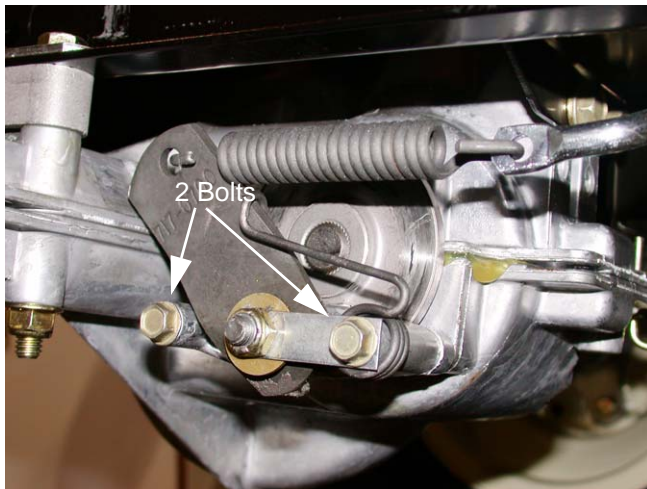

Figure 19.16
19.16. If the brakes are dragging or worn, or if the rotor needs to be removed from the shaft, remove the two bolts that hold the caliper to the transaxle using a 3/8" wrench. See Figure 19.16.